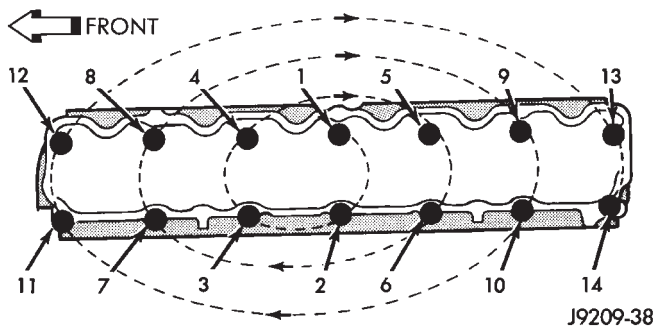

Fig. 38 Engine Cylinder Head Bolt Tightening Sequence
(5) Tighten the engine cylinder head bolts in sequence according to the following procedure (Fig. 38).